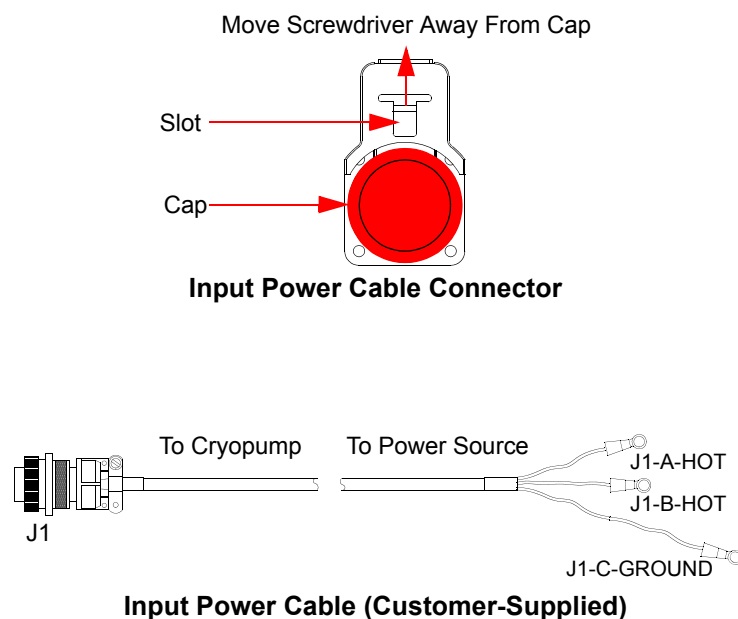
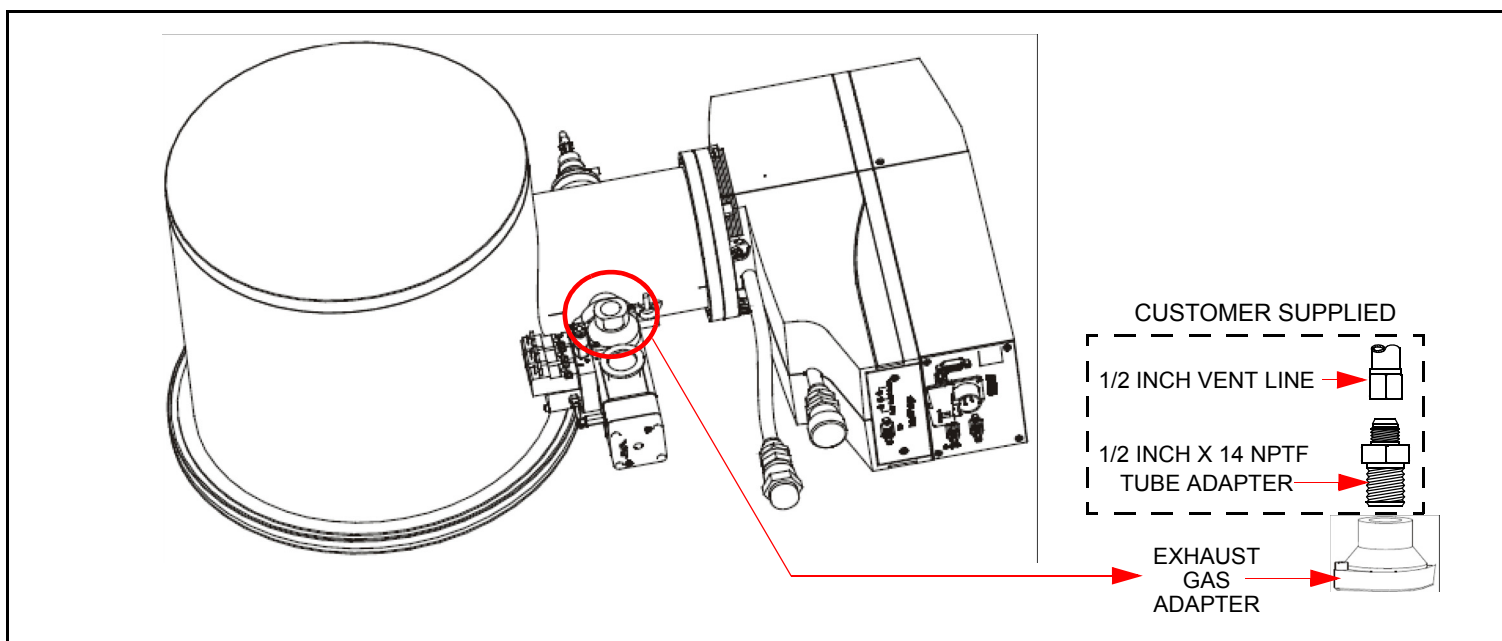

Figure 2: Input Power Cable Connector and Input Power Cable
Figure 3: Relief Valve Exhaust Connection
NOTE: To avoid loss of helium, do not modify or remove the pressure relief valves. (See Figure 3.) Always connect and disconnect helium flex lines with the method illustrated in Figure 1 Inset.
See the following numbered steps in Figure 1, Figure 2, and Figure 3 for cryopump installation connections.
- 4 Connect the pressure relief valve exhaust (Figure 3).
- 13 Remove cap and connect Input Power Cable (Figure 2).